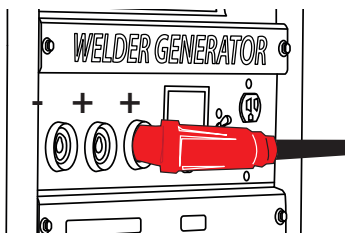

FIGURE 13
10.1 Remove the ground cable and the electrode holder from the weld output connections. Install the ground cable to the Positive (+) weld output connection. **FIGURE 13.**